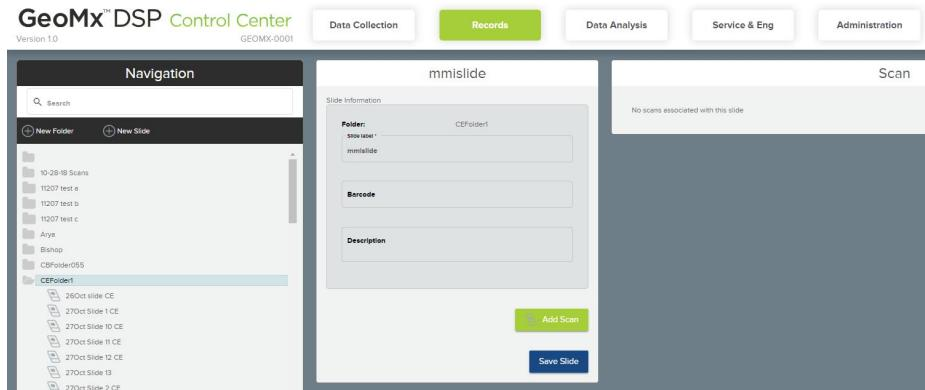

Figure 56: Slide record under Records in GeoMx DSP Control Center
- If the selected slide record does not yet have a set of scan parameters associated with it, the Scan Card will simply read, "No scans associated with this slide" (see Figure 56). To associate scan parameters with this slide record, click the **Add Scan** button in the **Slide Record** window.